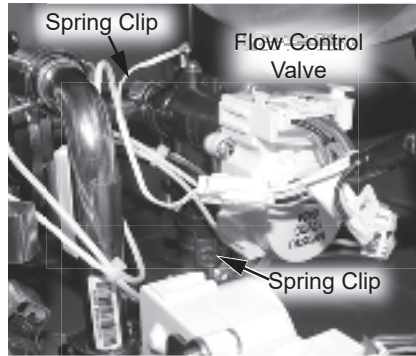

Figure 164 - Flow control valve location
19 Locate the flow control valve at the bottom right side of the water heater. See Figure 164.
20 Remove the two (2) spring clips (size 25) securing the flow control valve to the piping system. Place spring clips aside in a safe place for reinstallation. Remove the flow control valve from pipe connections and set aside in the water heater cabinet. See Figure 164.